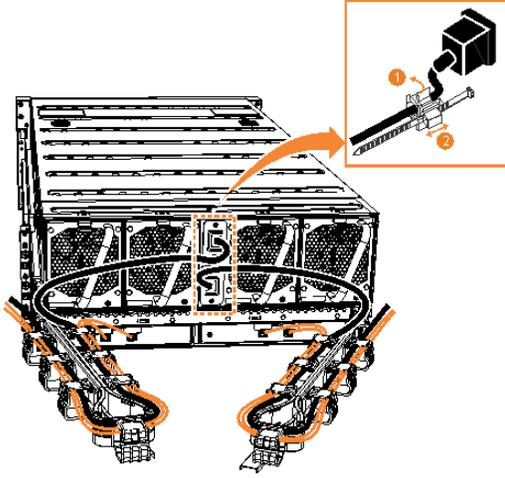

Figure 57. Secure power cables
2. Secure the power cables in the cable retainer at each power connector on the rear of the enclosure, as shown in Figure 57 on page 99. Also, ensure that each cable is installed along one of the cable management arms. The cable management arms also support the SAS cables.